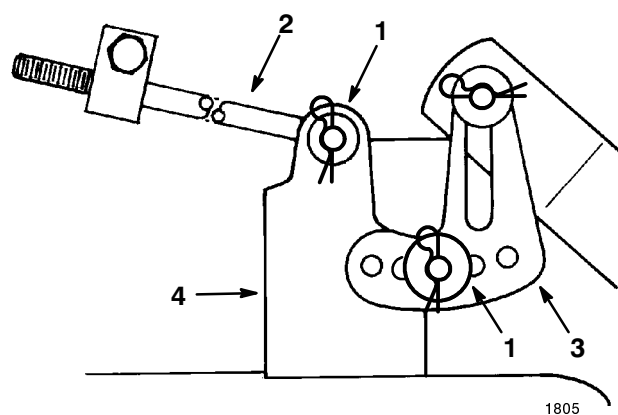

Figure 47
5. Remove the hair pin cotter and washer from the leveling bracket (Fig. 47). To level the blade(s), reposition the leveling bracket(s) in a different hole and install the washer and hair pin cotter. (Fig. 47). A front hole lowers the blade height and a rear hole raises its height. Repeat this procedure on the opposite side.